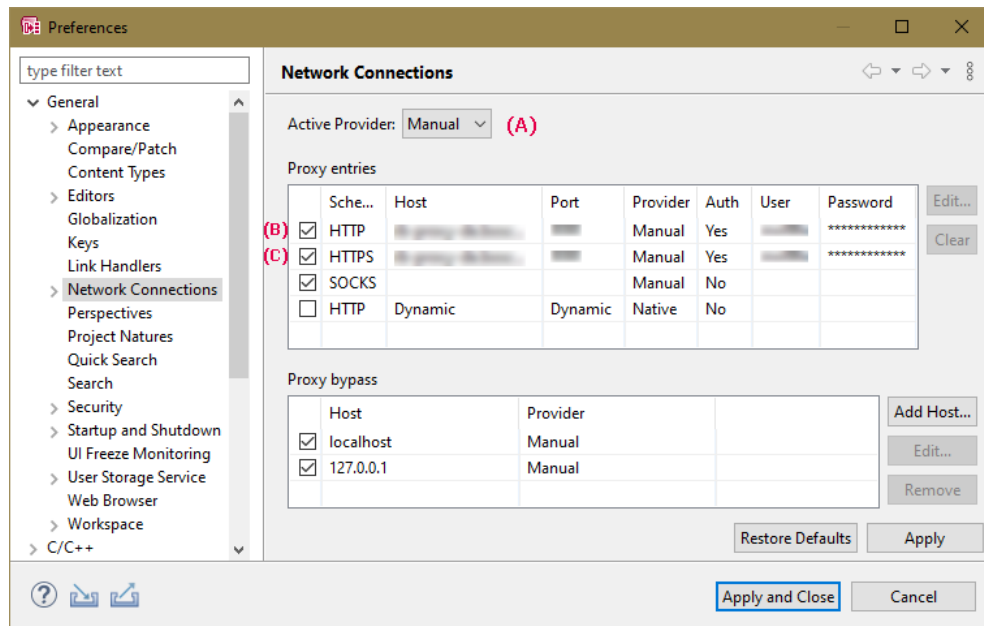

Figure 106. "Preferences" window, "General\Network Connections" node
- i. Set the "Active Provider" to `Manual` (A in Figure 106).
- ii. Select the `HTTP` schema (B in Figure 106) and click on the **Edit** button.
- iv. Edit the `HTTPS` (C in Figure 106) schema in the same way.